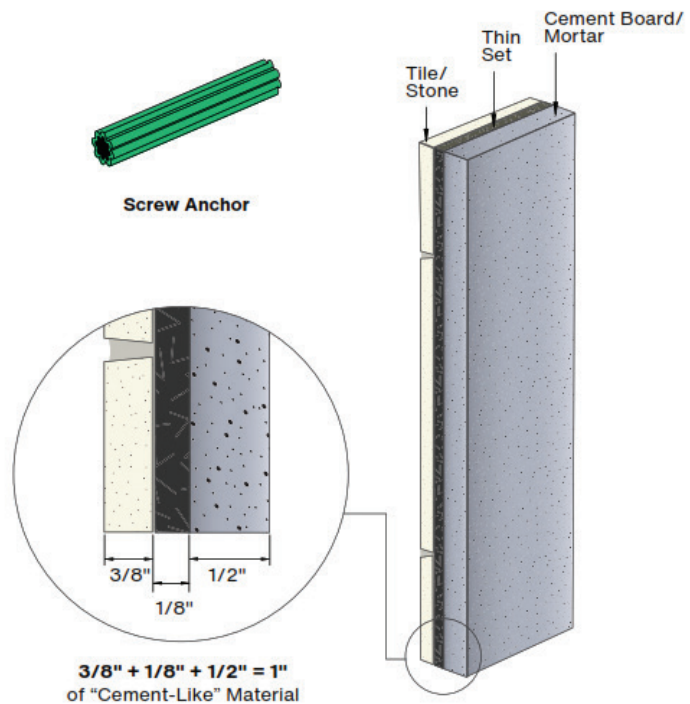

FIGURE 3 Example of adequate substrate – “cement-like” material
2. A minimum of 1 inch of a “cement-like” material with the correct screw anchors (Figure 3). The tile/stone thickness is counted as “cement-like” material. The thin-set used to attach the tile/stone to the wall also counts as “cement-like material. The last component is either a masonry-floated wall or cement-board. Greenboard does not count as “cement-like” material. The thickness of the three components must add up to 1 inch thickness. As an example: $\frac{3}{8}$ -inch thick tile/stone + $\frac{1}{8}$ -inch thin set + $\frac{1}{2}$ -inch cement board = 1 inch.